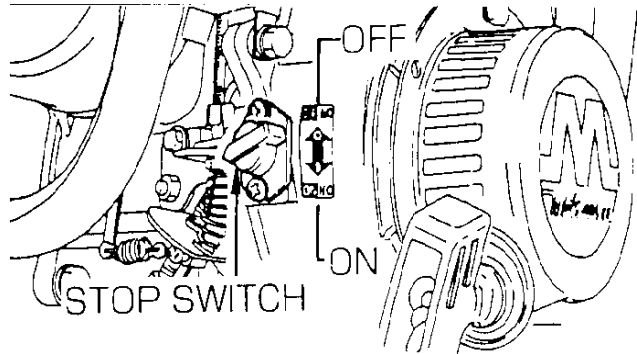

Figure 6. Engine On/Off Switch
2. Set the engine ON/OFF switch (Figure 6) to the "ON" position (start).
1. Move the throttle lever quickly to the **IDLE** position, and turn the engine start/stop switch (Figure 6) to the **STOP** position.